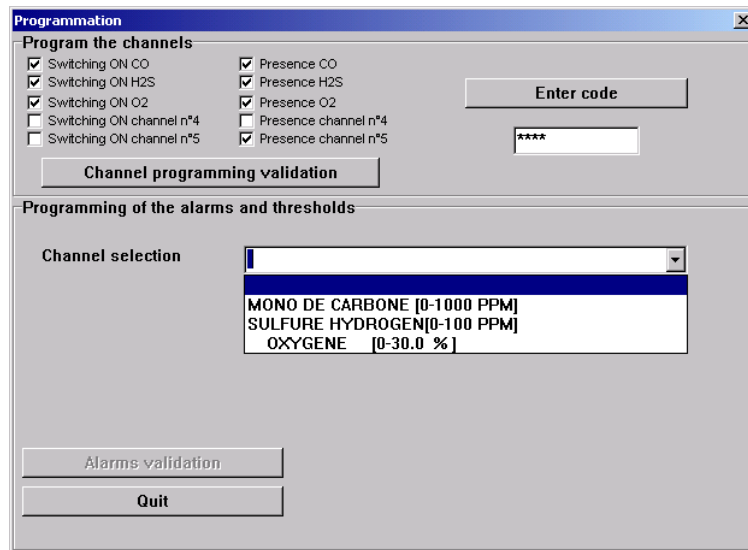

Figure 39 - Program menu screen
Select the channel from the dropdown list (*Channel selection* - Figure 39):
- Access is password protected. Select the channel fitted with the catalytic sensor (Channel selection, see Figure 39).